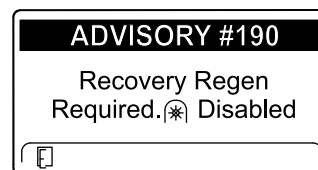

Figure 50
- Recovery regeneration required—power takeoff disabled ADVISORY #190 (Figure 50)